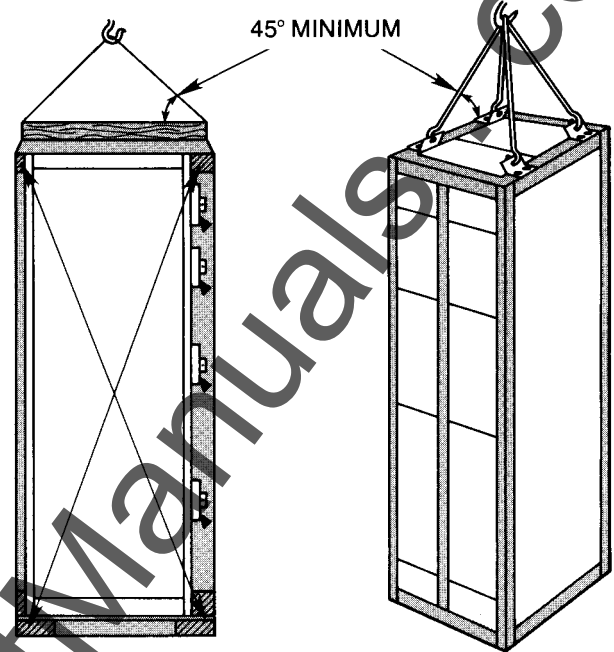

FIGURE 3
Equipment may be moved into position by means of construction rollers under the shipping skids. Remove all outer packaging. Lifting by crane or other hoisting methods done as shown in Figures 3 and 4.
3. Rig so that legs of sling (Figs. 3 and 4) are no less than 45° from horizontal.